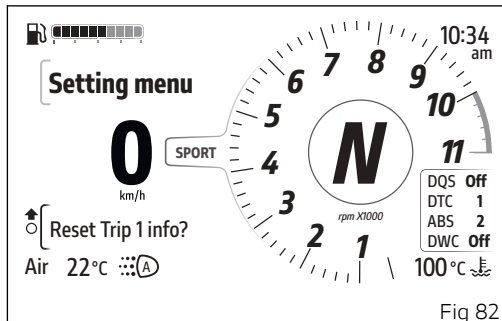

Fig 82
The trip information "Trip 1", "Ø cons.1", "Ø speed 1" and "Trip 1 time", when selected, can be reset by pressing the ENTER button (3): the message "Reset Trip 1 info?" is displayed (Fig 82).